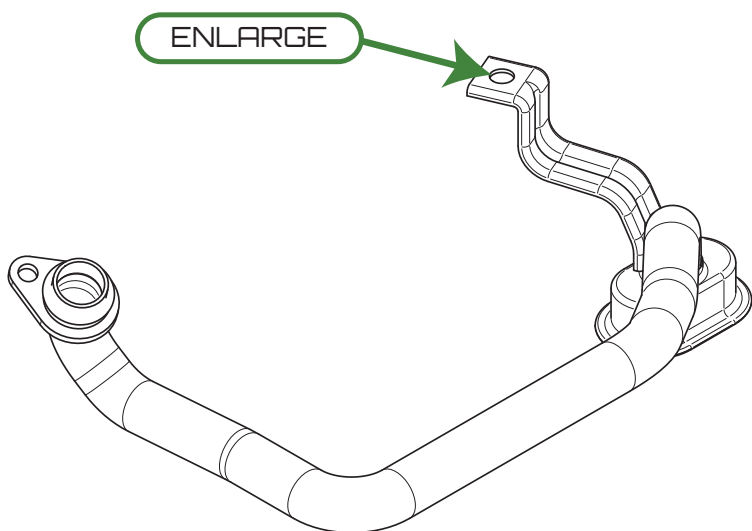

Figure 8 - Hole to Enlarge on the Pickup Tube (Screen)
17. If using ARP main studs, enlarge the pickup tube (screen) mounting hole with a $\frac{7}{16}$ inch (11 mm) drill bit. The hole is shown in Figure 8.